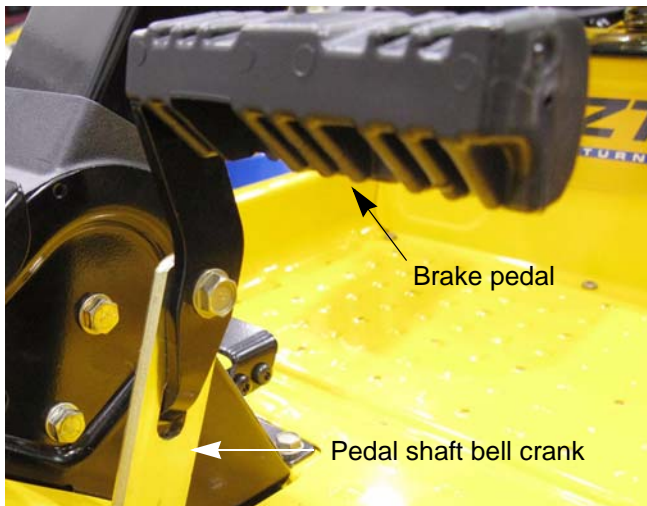

Figure 3.2
2. Remove the brake pedal: See Figure 3.2.